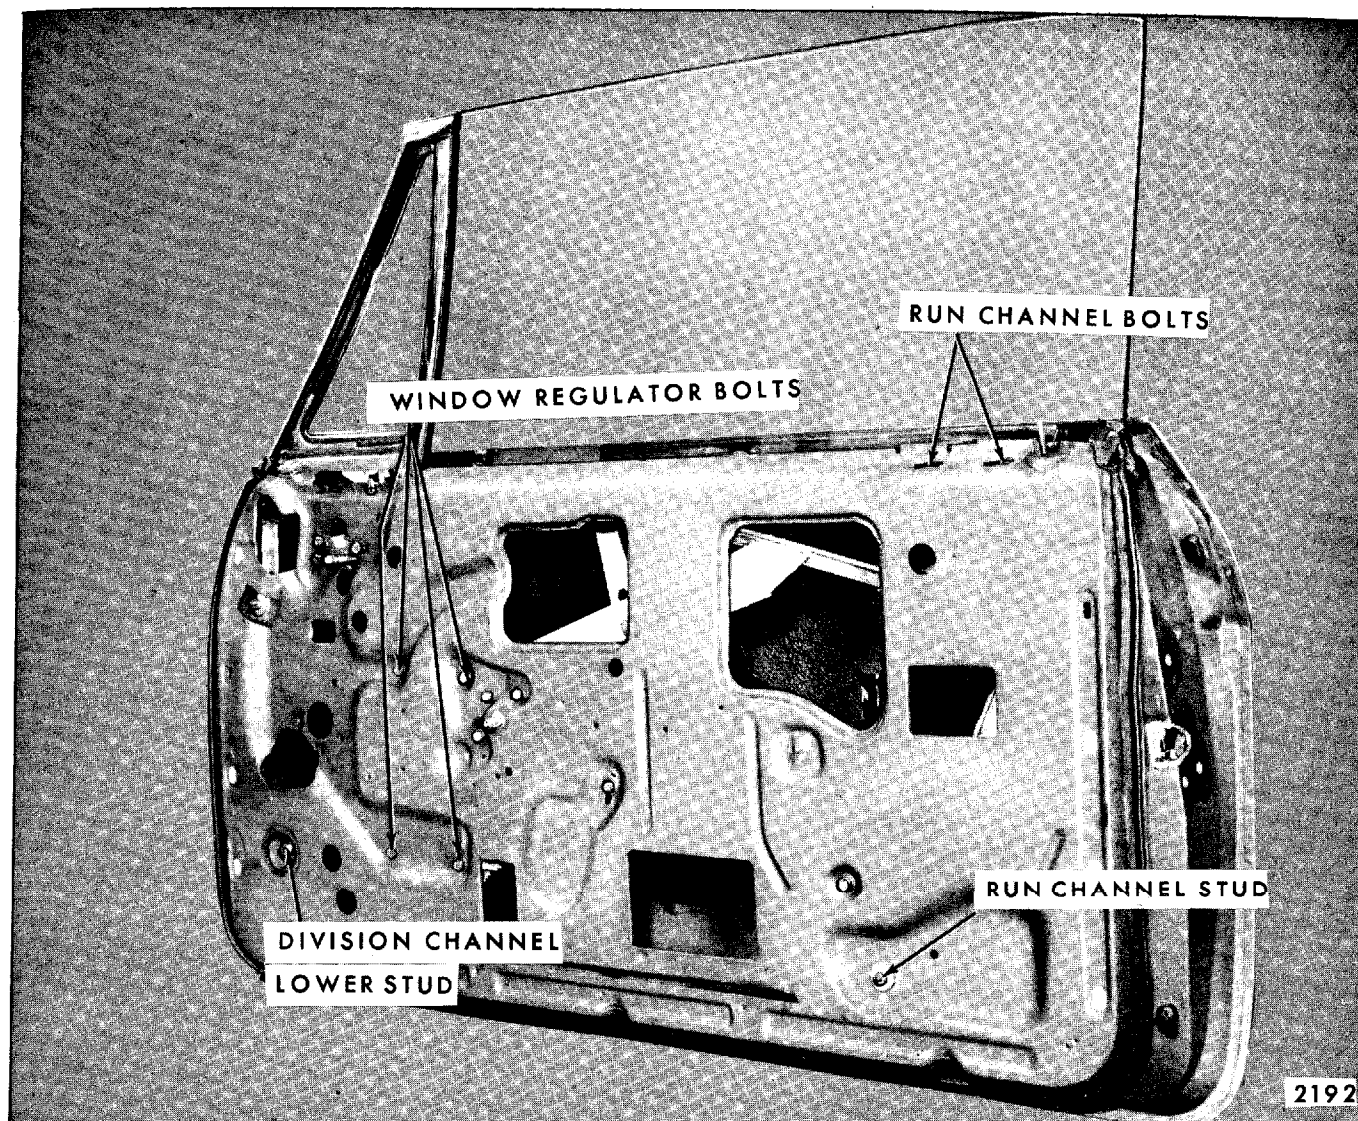

Fig. 7-93—Window Regulator Removal - "B & C" Hardtop Styles
2. On two-door styles, remove ventilator division channel lower adjusting stud and nut (Fig. 7-93).
4. Remove window regulator attaching bolts (Fig. 7-93).
3. Remove window regulator attaching bolts (Fig. 7-93) and remove regulator through access hole.
4. Remove ventilator division channel lower adjusting stud and nut and window regulator attaching bolts (Fig. 7-93).
2. With window in full-up position, remove window glass run channel upper attaching bolts and lower adjusting stud nut (Fig. 7-93).